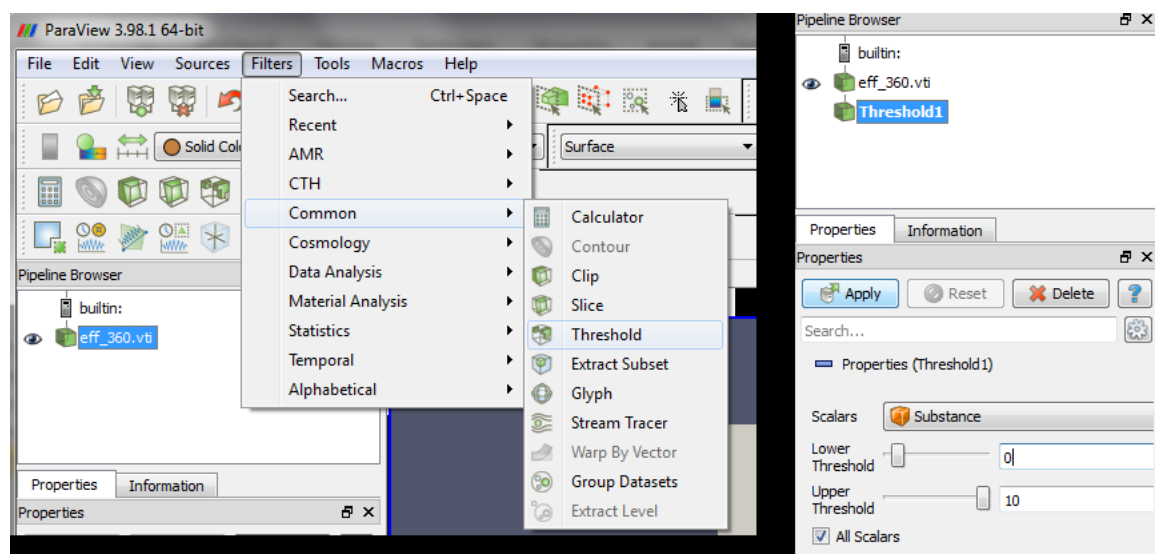

Figure 6.2-5: Selecting the Threshold filter in **Filters->Common** (left). “Removing” the pseudo-material by cutting off negative substance values (right).
In ParaView, there are a lot of “filters” with which you can perform operations on the VTK data sets. They are located in the **Filters** menu. There is an alphabetical list of all available filters, some of which are active and some inactive depending on whether they can be applied to the currently considered data set or not. There are other groupings of the filters as well. After you have used ParaView several times you will find your “favorite” filters under **Recent**. When using it the first time, the **Threshold** filter we are looking for can be found in the **Alphabetical** list or under **Common** (see Figure 6.2-5, left).
- Select **Substance** (i.e. the material data stored in the VTI file) from the **Scalars** list. By default, the **Lower Threshold** value is set to -1. This value corresponds to the pseudo-material that completes the cuboid for the image data. To make this part of the domain invisible, increase the value to 0. You can do this either by using the corresponding slider or just by typing that value in the text entry field (see Figure 6.2-5, right).